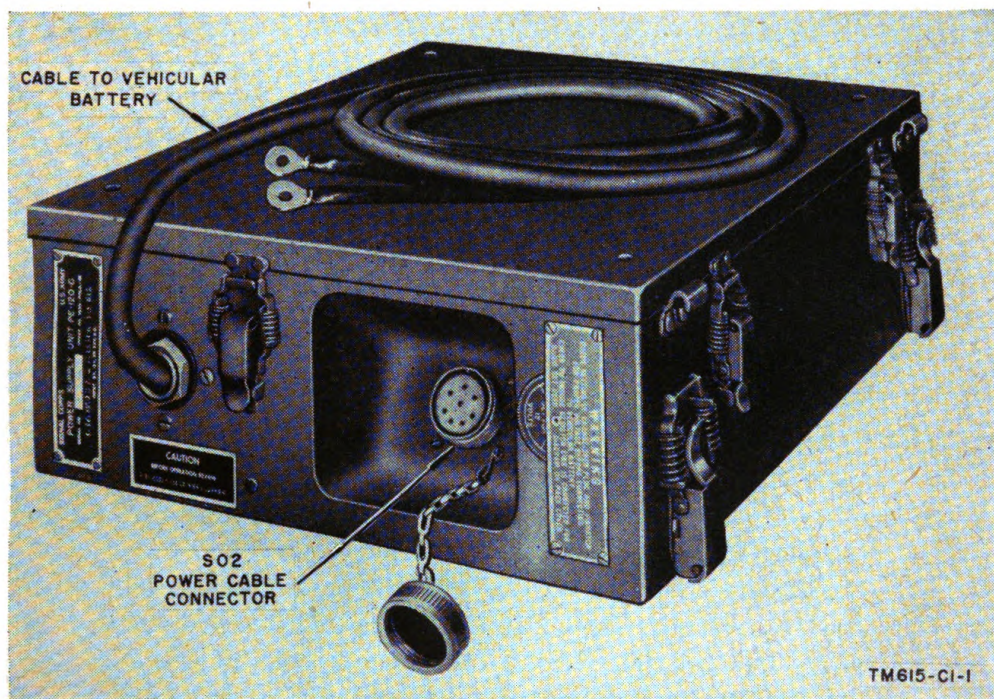

Figure 3.1 (Added) Power Supply Unit PE-120-C, exterior view.
*d. Case CS-79-(\*)*. Case CS-79-(\*) contains \* \* \* catch clips provided. Case CS-79-N is a modification of Case CS-79-(\*) and is electrically interchangeable with it. Case CS-79-N is capable of withstanding heavy rains. The following mechanical improvements have been incorporated. The cover is easily removable. Five catch clips have been added to hold down the cover securely to the gasket. The connector cable has been replaced by a receptacle mounted on the recessed portion of the front panel (fig. 3.1).
- (3) Power Supply Unit PE-120-(\*) is a vibrator-type power supply, designed for connection to 6-volt, 12-volt, or 24-volt vehicular batteries. Hooks and catch clips are provided on the power supply housing so that Radio Receiver and Transmitter BC-620-(\*) can be mounted on top of, and secured to, Power Supply Unit PE-120-(\*) or Mounting FT-317-(\*). Power Supply Unit PE-120-(\*) is contained in a metal case with space provided for a spare vibrator and spare fuses. The vibrators are of the plug-in type for quick and easy replacement.
- (4) Modification work order MWO SIG 11-605-7 covers the modification of Radio Receiver and Transmitters BC-620-A, -B, -F, and -G and Plate Supply Units PE-97-A and -D to provide improved filament voltage regulation. Radio Receiver and Transmitters BC-620-H and -J are not covered by this modification work order, since they were procured after its publication, nor do they contain the features of the modification. Therefore, the BC-620-H and BC-620-J are not to be used with the PE-97-(\*). Instead, the BC-620-H and BC-620-J are to be used with Power Supply Unit PE-120-(\*), which has self-contained filament voltage regulation. Power Supply Unit PE-120-(\*) may be used with all models of the BC-620-(\*). Power Supply Units PE-120-A, -B, and -C are all essentially the same and are interchangeable as units.
- (5) Externally, Power Supply Units PE-120-B and -C differ slightly from Power Supply Unit PE-120-A in appearance and in the manner in which the cover is secured to the case (fig. 3.1). The case cover for Power Supply Unit PE-120-B or -C is secured to the case with spring-loaded catches and is completely removable; the case cover for Power Supply Unit PE-120-A is hinged to the case and is not detachable. The eight-pin socket connector, SO2, is mounted in a recess in the side of the case of Power Supply Units PE-120-B and -C, instead of being connected to a cable extension as in Power Supply Unit PE-120-A.
- (6) Functionally, Power Supply Unit PE-120-B or -C is interchangeable as a unit with Power Supply Unit PE-120-A. Because of the difference in the mounting of socket connector SO2, however, the interior chassis, which mounts the components of Power Supply Units PE-120-B and -C, cannot be installed in the case designed for Power Supply Unit PE-120-A, and the chassis of Power Supply Unit PE-120-A cannot be installed in the cases designed for Power Supply Units PE-120-B and -C.